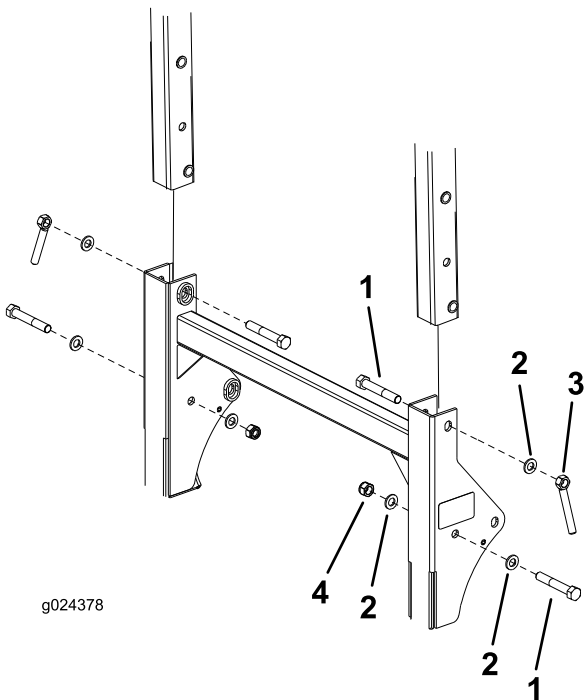

Figure 5
13. Secure each side of the upper ROPS frame to the lower support with a M16 x 100 bolt, (2) washers and a M16 nut (Figure 5). Torque the bolts to 190 N-m (140 ft/lbs). Ensure that the upper frame pivots freely through the range of movement.
14. Raise the upper ROPS frame into the upright position and secure each side with a M16 x 100 bolt, washer and hand nut (Figure 5).